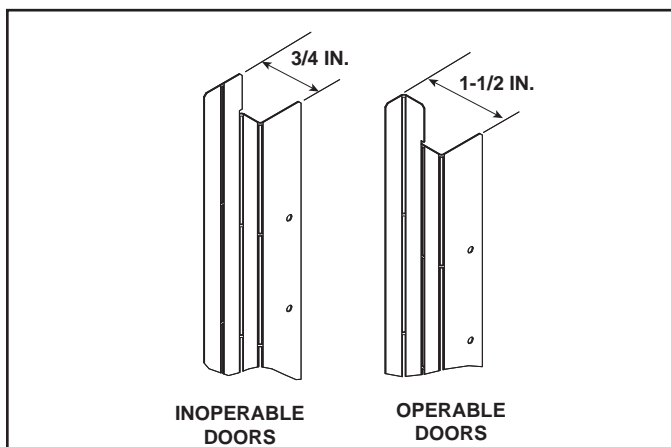

Figure 13.1 Left and Right Side Finishing Template Bends
2. Bend the left and right side templates for the appropriate door type using Figure 13.1 as a reference.